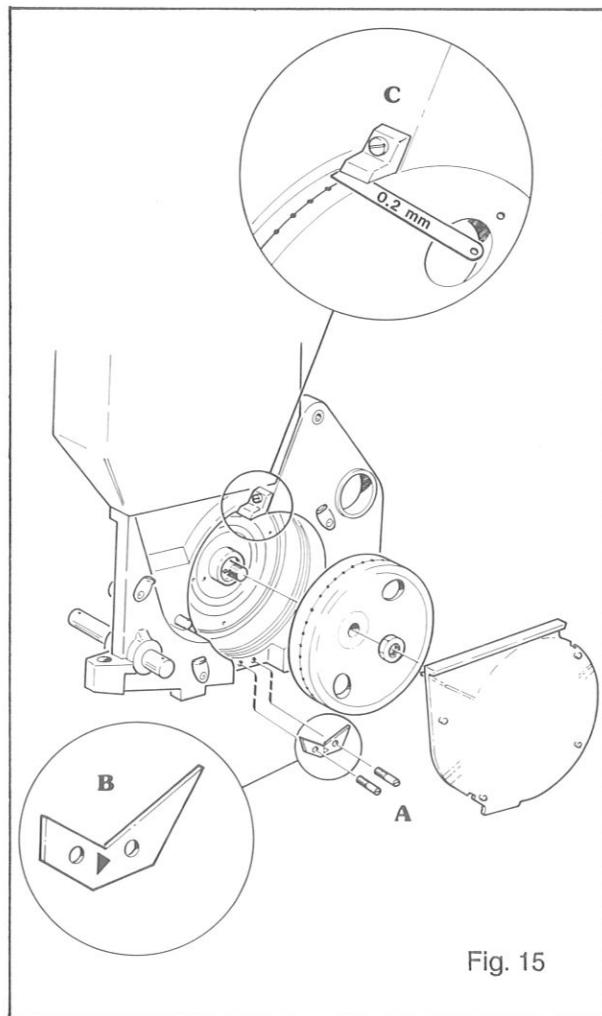

Fig. 15
- Fit the stud bolts (A) into the seeder housing as shown in Fig. 15.
- Mount the cell wheel holding the ejector blade (B) in the groove. Mount the ejector blade with the arrow (►) pointing forwards. Cell wheels having two rows of holes require two ejector blades.
- Adjust the distance (C) between the repeller and the cell wheel to 0.2 mm as shown in Fig. 15.